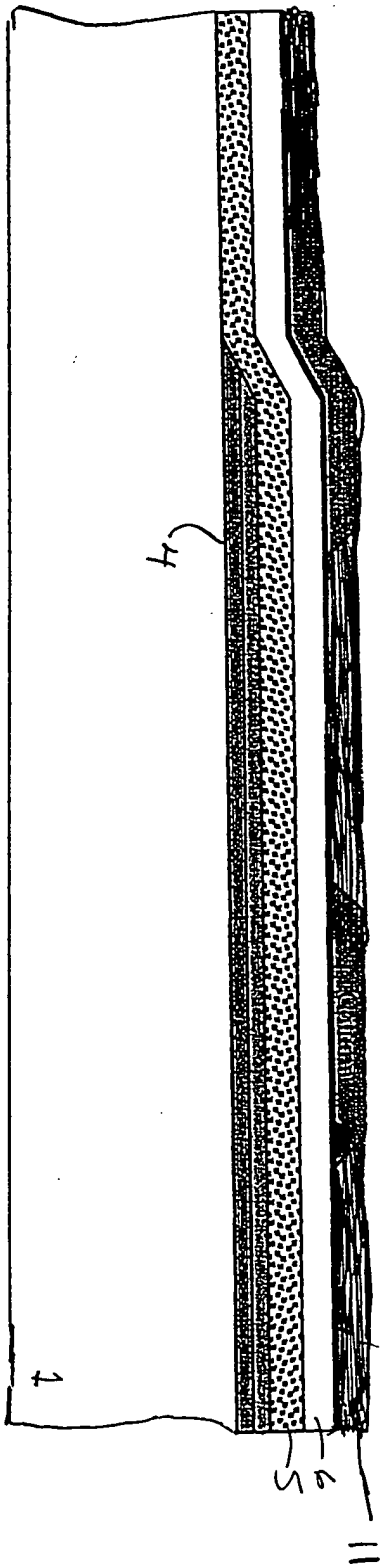
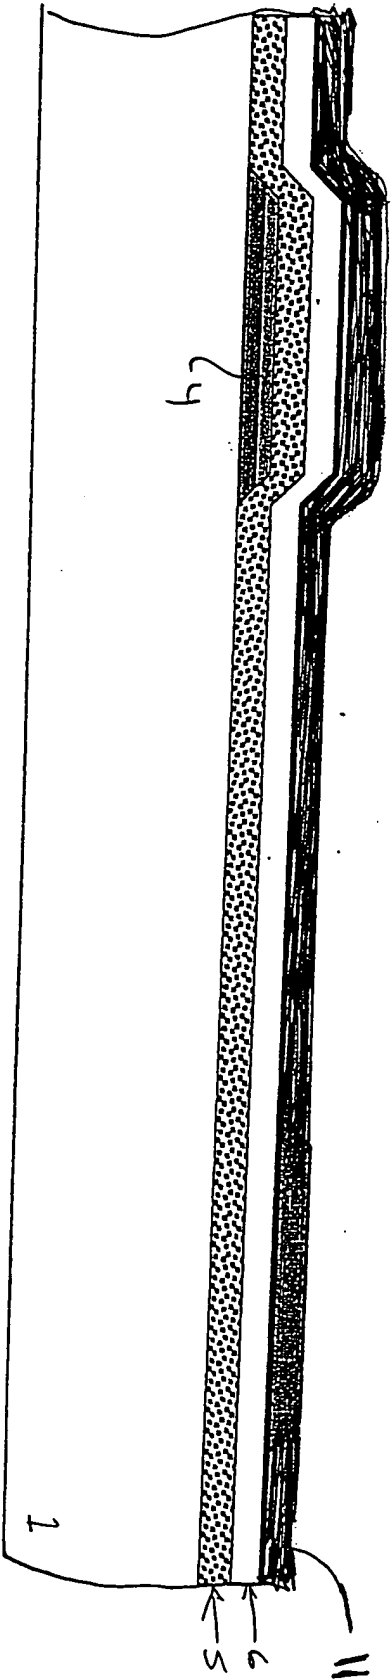

FIG. 7A
FIG. 7B
FIG. 7A and FIG. 7B are cross-sectional views of a multi-layered structure. The structure includes a top layer (11), a middle layer (4) with a stippled texture, and a bottom layer (1). A small gap or channel (5) is visible between the top and middle layers. The structure has a stepped profile on the right side.